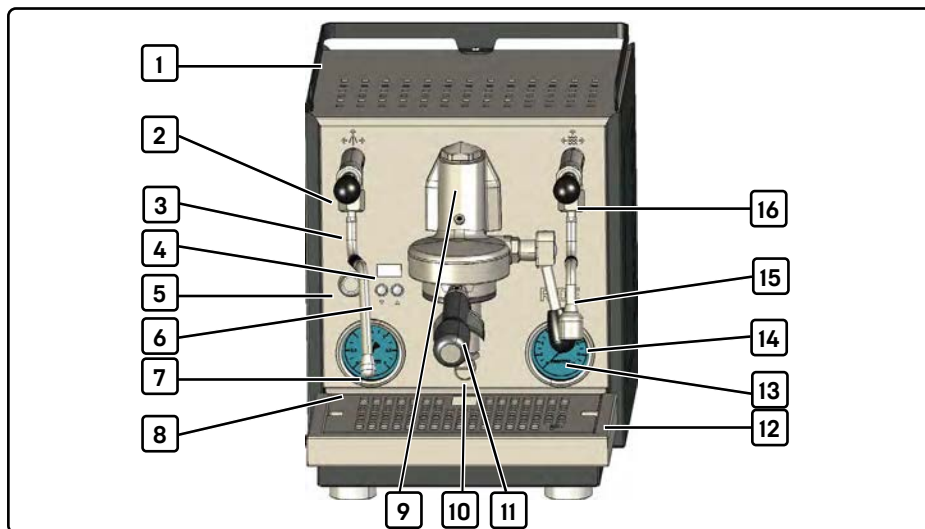

Fig. 1 Structure and components
1. Press the main switch [1, Fig. 1].